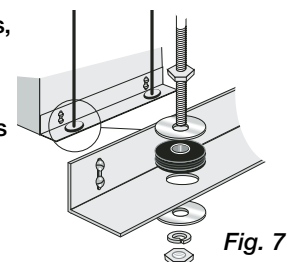

Fig. 7
**For Hanging Installations:** Use Greenheck's optional vibration isolator kit Part Number VI Kit. Using the fan's standard adjustable mounting brackets and 10 by 32 threaded rod (by others) hang unit as shown in Fig. 7.